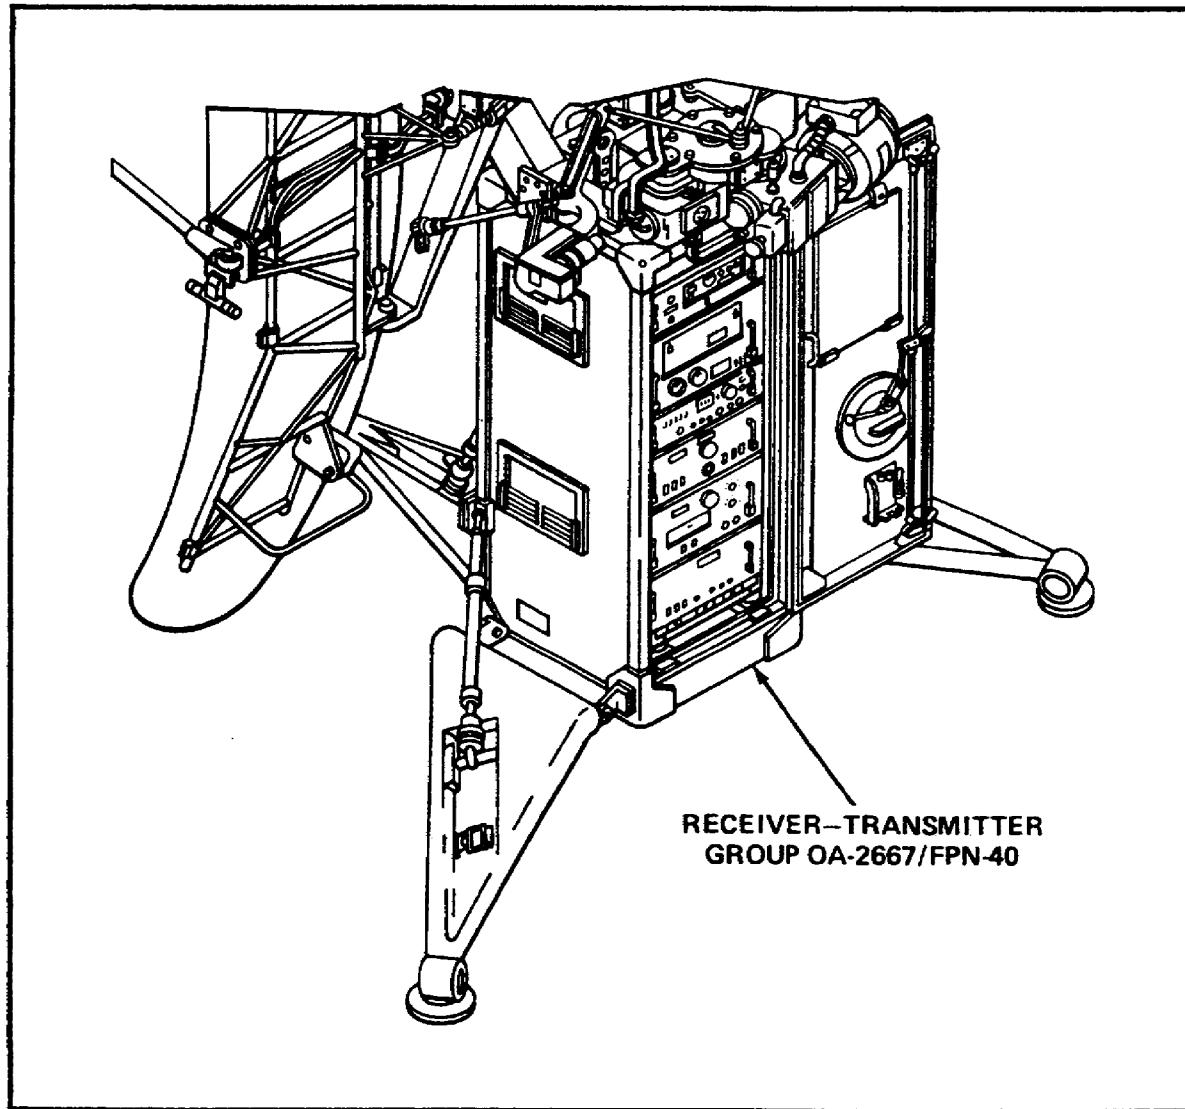

Figure 43. Receiver-transmitter group OA-2667/FPN-40.
- a. Locate and identify receiver-transmitter group OA-2667/FPN-40. (See Figure 43.)
- Receiver-transmitter group OA-2667/FPN-40 (Figure 43)